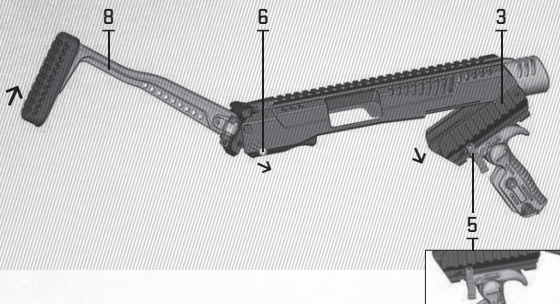

Fig 4
Step 1. Open the Locking Lever (5) to the front and rotate to vertical position pointing down (Fig.4).